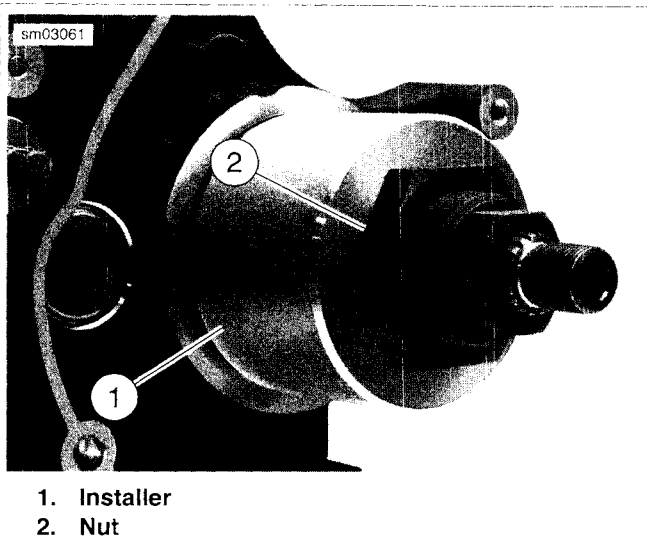
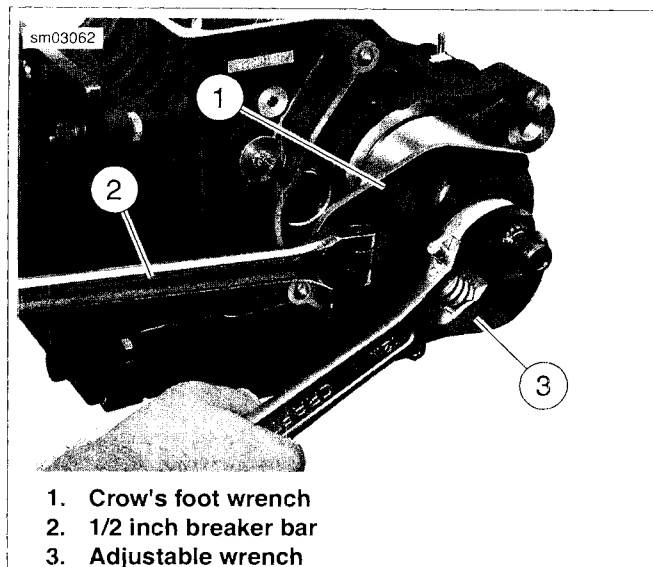

Figure 6-47. Installer and Nut
Figure 6-48. Press Seal Into Crankcase
5. See Figure 6-47. Slide INSTALLER (Part No. HD-47856-1) (1) over adapter until cupped end of installer is flat against seal.
6. Thread NUT (Part No. HD-47856-6) (2) onto end of adapter, until it tightens against installer.
7. See Figure 6-48. Place CROW'S FOOT WRENCH (Part No. HD-47856-7) (1) with 1/2 inch drive breaker bar (2) on large nut. Place an adjustable wrench (3) on flats of hex head cast into end of adapter.